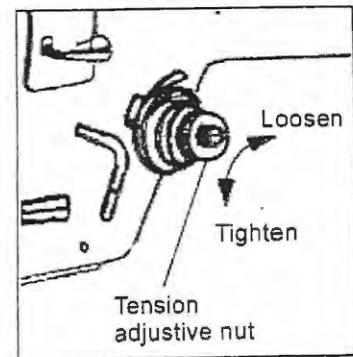

Fig.11
21. The thread tension adjustment (Fig.11, 12, 14)